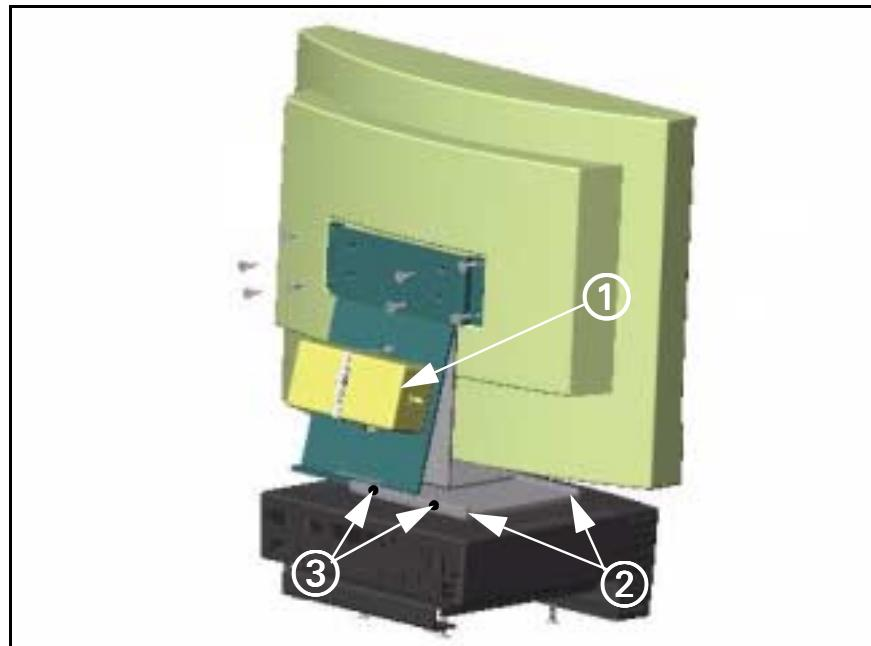

Figure 10-4 Flat Screen Display mounted to MDS
9. Set power supply (① in Figure 10-4) between both slots on support mount, and tighten cable tie to secure to supply to mount.
10. Set flat screen display upright with bottom of support mount aligned to slots on mounting bracket (installed in step 2 and 3 above), and slide mount into bracket (② in Figure 10-4 on page 16), so that mount is positioned in center.
11. Insert and tighten two Phillips-head screws (supplied, ③ in Figure 10-4) on rear of mounting bracket to secure flat screen display in bracket.